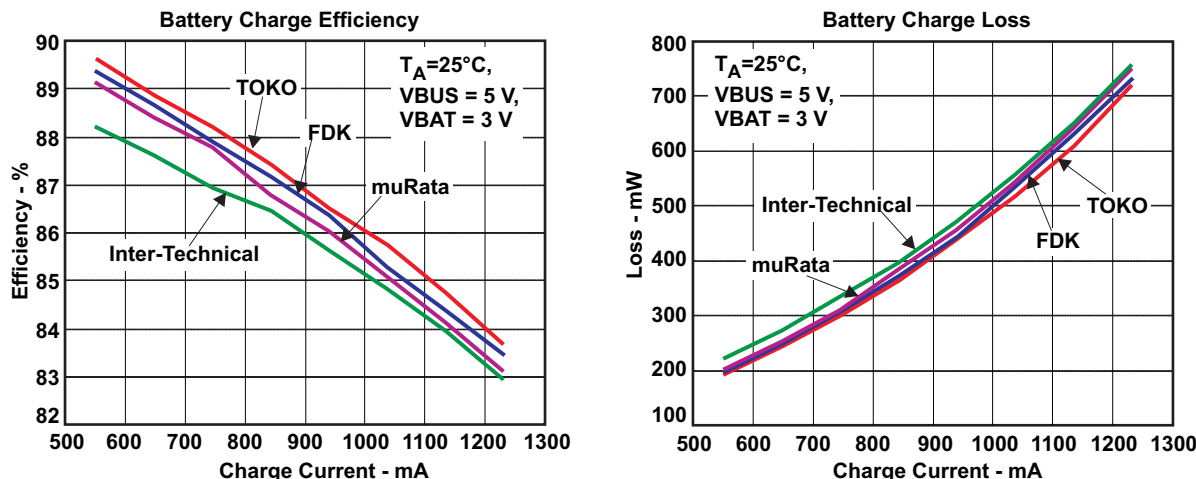
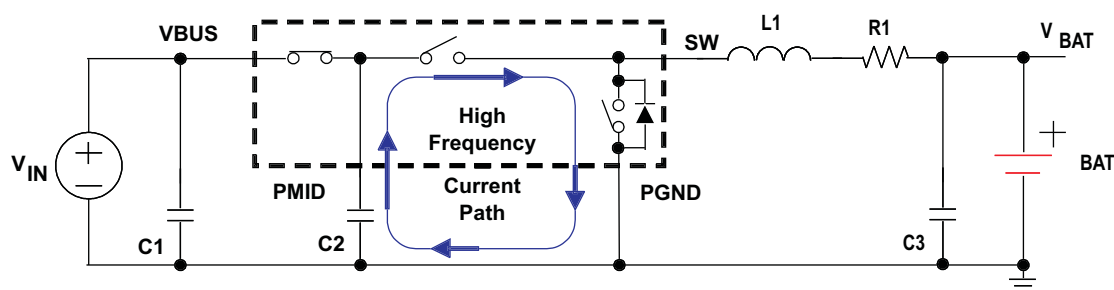
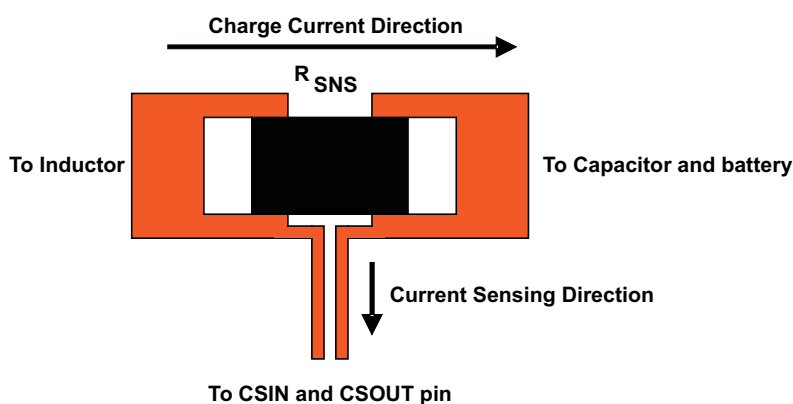

Figure 37. Measured Efficiency and Power Loss
Figure 38. High Frequency Current Path
Figure 39. Sensing Resistor PCB Layout
4. Measured efficiency and total power loss with different inductors are shown in Figure 37. SW node and inductor current waveform are shown in Figure 38.
- To obtain optimal performance, the power input capacitors, connected from input to PGND, should be placed as close as possible to the bqTINYSWITCHER. The output inductor should be placed close to the IC and the output capacitor connected between the inductor and PGND of the IC. The intent is to minimize the current path loop area from the SW pin through the LC filter and back to the PGND pin. To prevent high frequency oscillation problems, proper layout to minimize high frequency current path loop is critical. (See Figure 38.) The sense resistor should be adjacent to the junction of the inductor and output capacitor. Route the sense leads connected across the RSNS back to the IC, close to each other (minimize loop area) or on top of each other on adjacent layers (do not route the sense leads through a high-current path). (See Figure 39.)